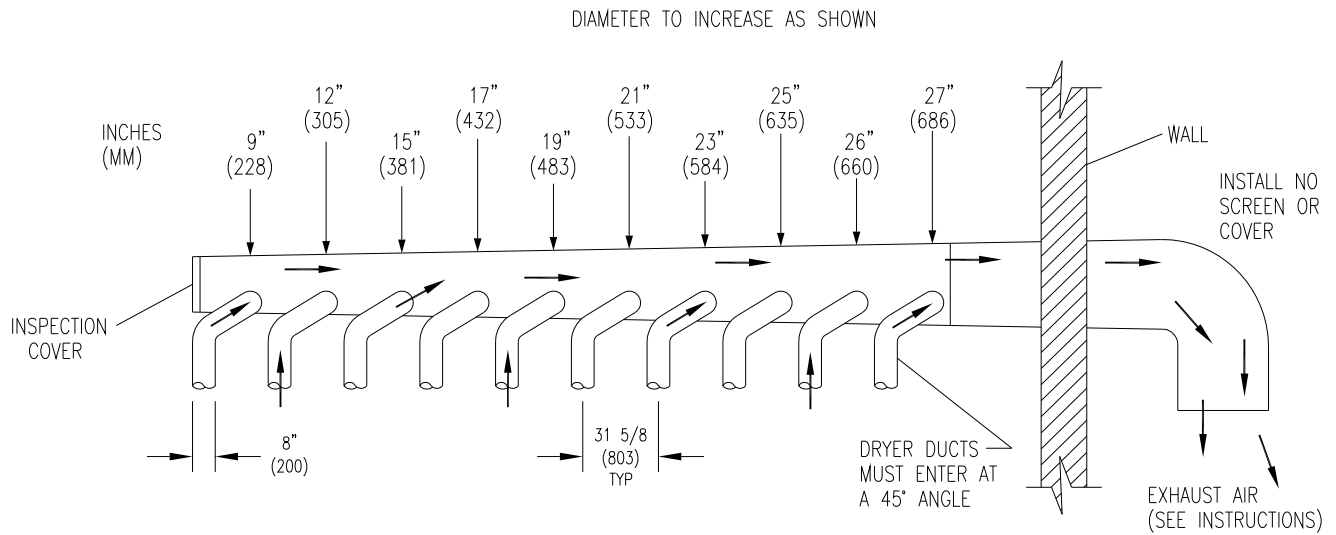

FIGURE 2– Dryer Exhausting Using A Main Discharge Duct.
**6. EXHAUST INSTALLATION.** (Refer to Figure 2 at the end of section 6.) Exhausting of the dryer(s) should be planned and constructed so that no air restrictions occur. Any restriction due to pipe size or type of installation can cause slow drying time, excessive heat, and lint in the room.
Installation of several dryers, where a main discharge duct is necessary, will need the following considerations for installation (see Figure 2). Individual 8" (200mm) ducts from the dryers into the main discharge duct should be at a 45-degree angle in the direction of discharge airflow.
**NOTE:** Never install the individual 8" (200mm) ducts at a right angle into the main discharge duct. The individual ducts from the dryers can enter at the sides or bottom of the main discharge duct. Figure 2 indicates the various round main duct diameters to use with the individual dryer ducts. The main duct can be rectangular or round, provided adequate airflow is maintained. For each individual dryer, the total exhausting (main discharge duct plus duct outlet from the dryer) should not exceed the equivalent of 20 feet (6m) and two elbows. The diameter of the main discharge duct at the last dryer must be maintained to exhaust end.